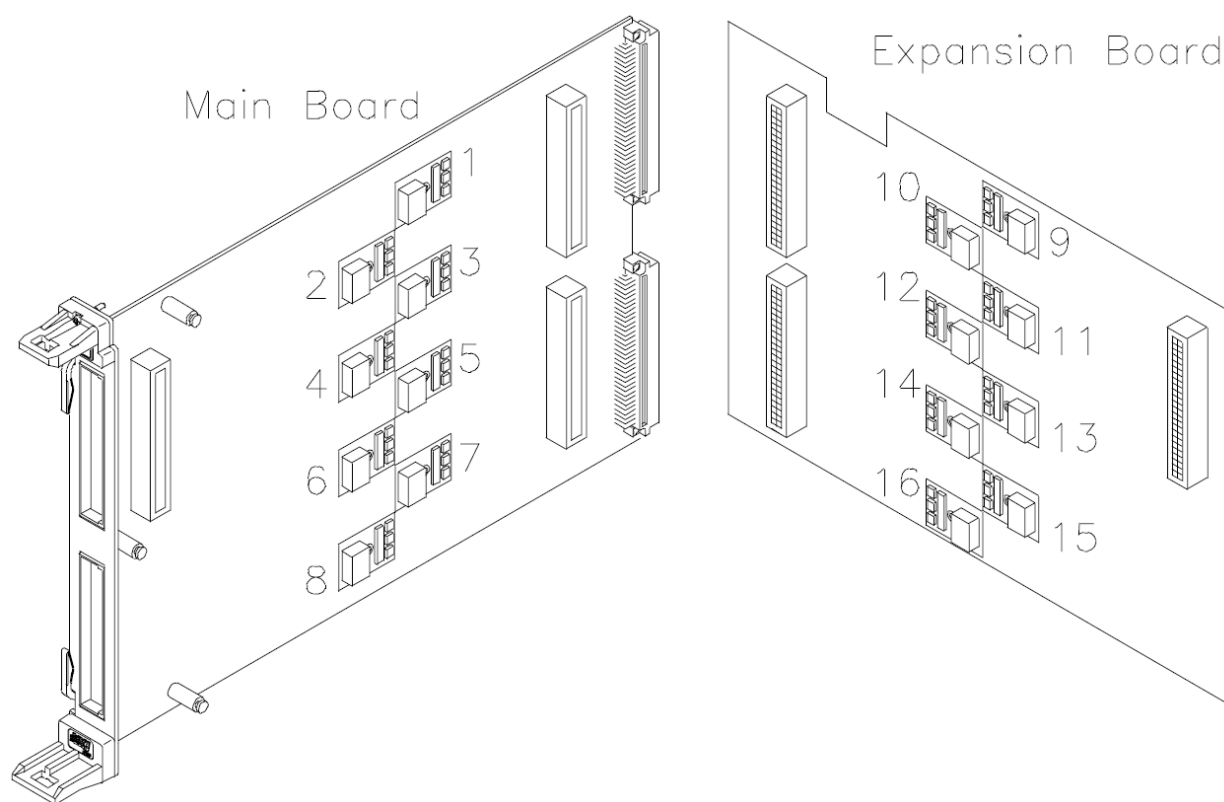

Figure E-3 Plug-on Channel Locations
- 3** Refer to Figure E-3 for the locations of the isolated/non-isolated plug-on modules. Each channel must have a plug-on module. Remove the screw securing the plug-on module(s).